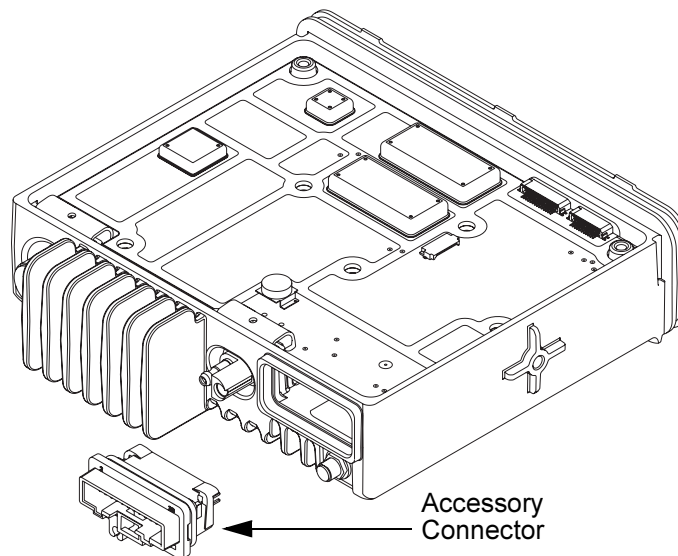

Figure 5-16. Inserting Accessory Connector
3. Insert the accessory connector into the radio assembly and press into place until the connector is flushed with the chassis. Refer to Figure 5-16.